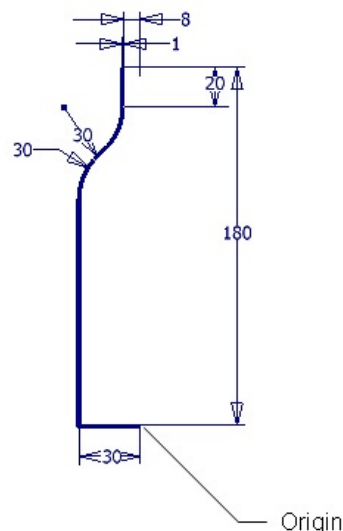

Figure 6-145 Sketch for the bottle
- Create the bottle by revolving a sketch drawn on the XZ plane, refer to Figure 6-145.
4. Draw the sketch of the bottle and then offset it outward to a distance of 1 mm to create a hollow bottle. Join the endpoints of the sketch using the **Line** tool to create a closed sketch, as shown in Figure 6-145.
5. Add the required constraints and specify the dimensions, refer to Figure 6-145.
In Figure 6-145, the display of grids has been turned off for the clarity of the sketch.